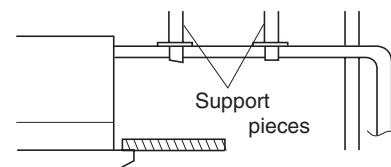

Fig. 1-56
- Do not apply force to the piping on the unit side when connecting the drain pipe. The pipe should not be allowed to hang unsupported from its connection to the unit. Fasten the pipe to a wall, frame, or other support as close to the unit as possible. (Fig. 1-56)